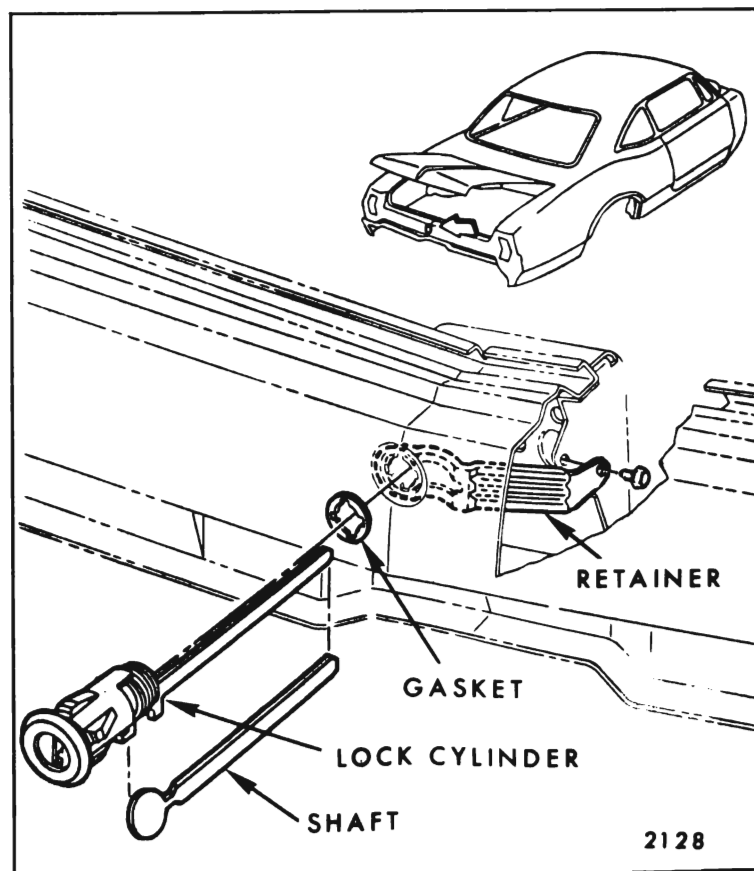

Fig. 9-13—Rear Compartment Lid Lock Cylinder Assembly - Oldsmobile "B" Style Shown
1. Open rear compartment lid and remove screw securing lock cylinder retainer to rear compartment lid lock support (Fig. 9-13).